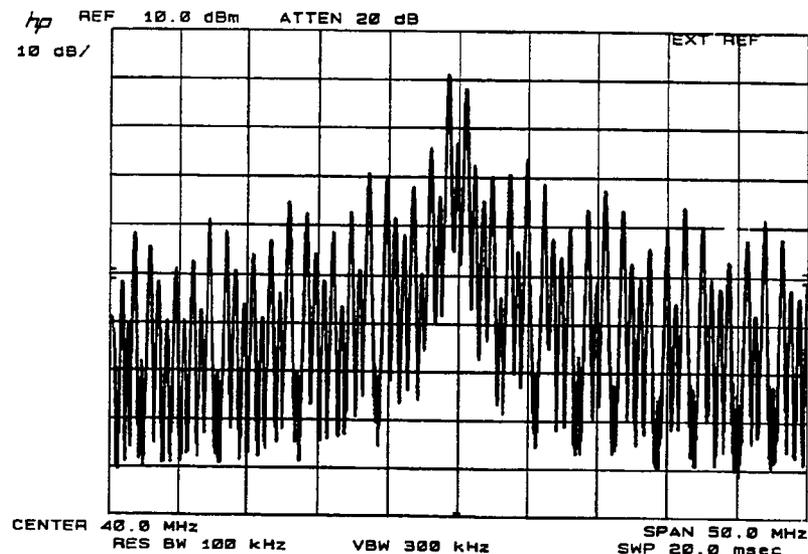

Figure 5-20. Example of a good 40 MHz serial test spectrum
11. The display on the spectrum analyzer should appear like Figure 5-20.